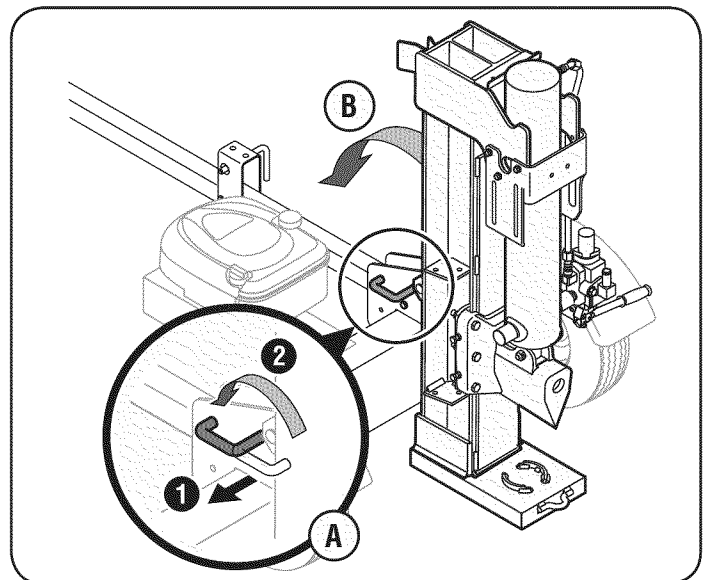

Figure 3
1. Pull out the vertical beam lock, rotate it back and pivot the beam to the horizontal position until it locks. See Figure 3.